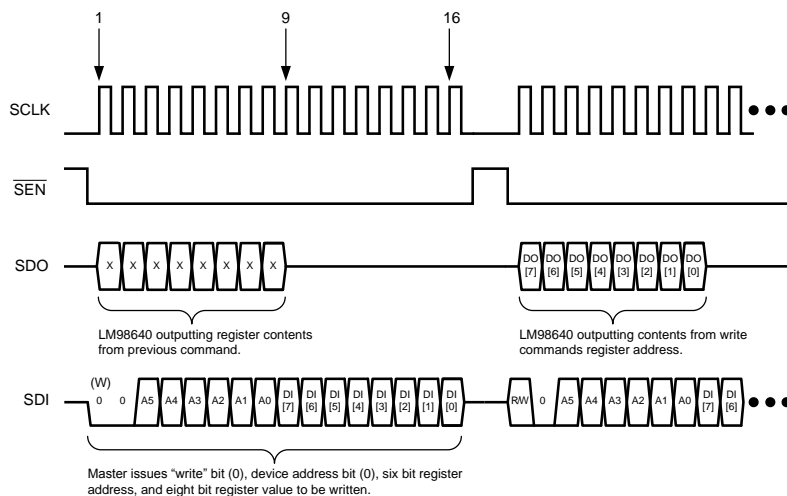

Figure 28. Four-Wire Serial Write
To write to the serial registers using the four wire interface, the timing diagram shown in Figure 28 must be met. First, $\overline{\text{SEN}}$ is toggled low. At the rising edge of the first clock, the master should assume control of the SDI pin and begin issuing the write command. The write command is built of a "write" bit (0), device address bit (0), six bit register address, and eight bit register value to be written. SDI is clocked into the LM98640 at the rising edge of SCLK. The LM98640 assumes control of the SDO pin during the first eight clocks of the cycle. During this period, data is clocked out of the device at the rising edge of SCLK. The eight bit value clocked out is the contents of the previously addressed register, regardless if the previous command was a read or a write. When $\overline{\text{SEN}}$ toggles high, the register is written to, and the LM98640 now functions with this new data.